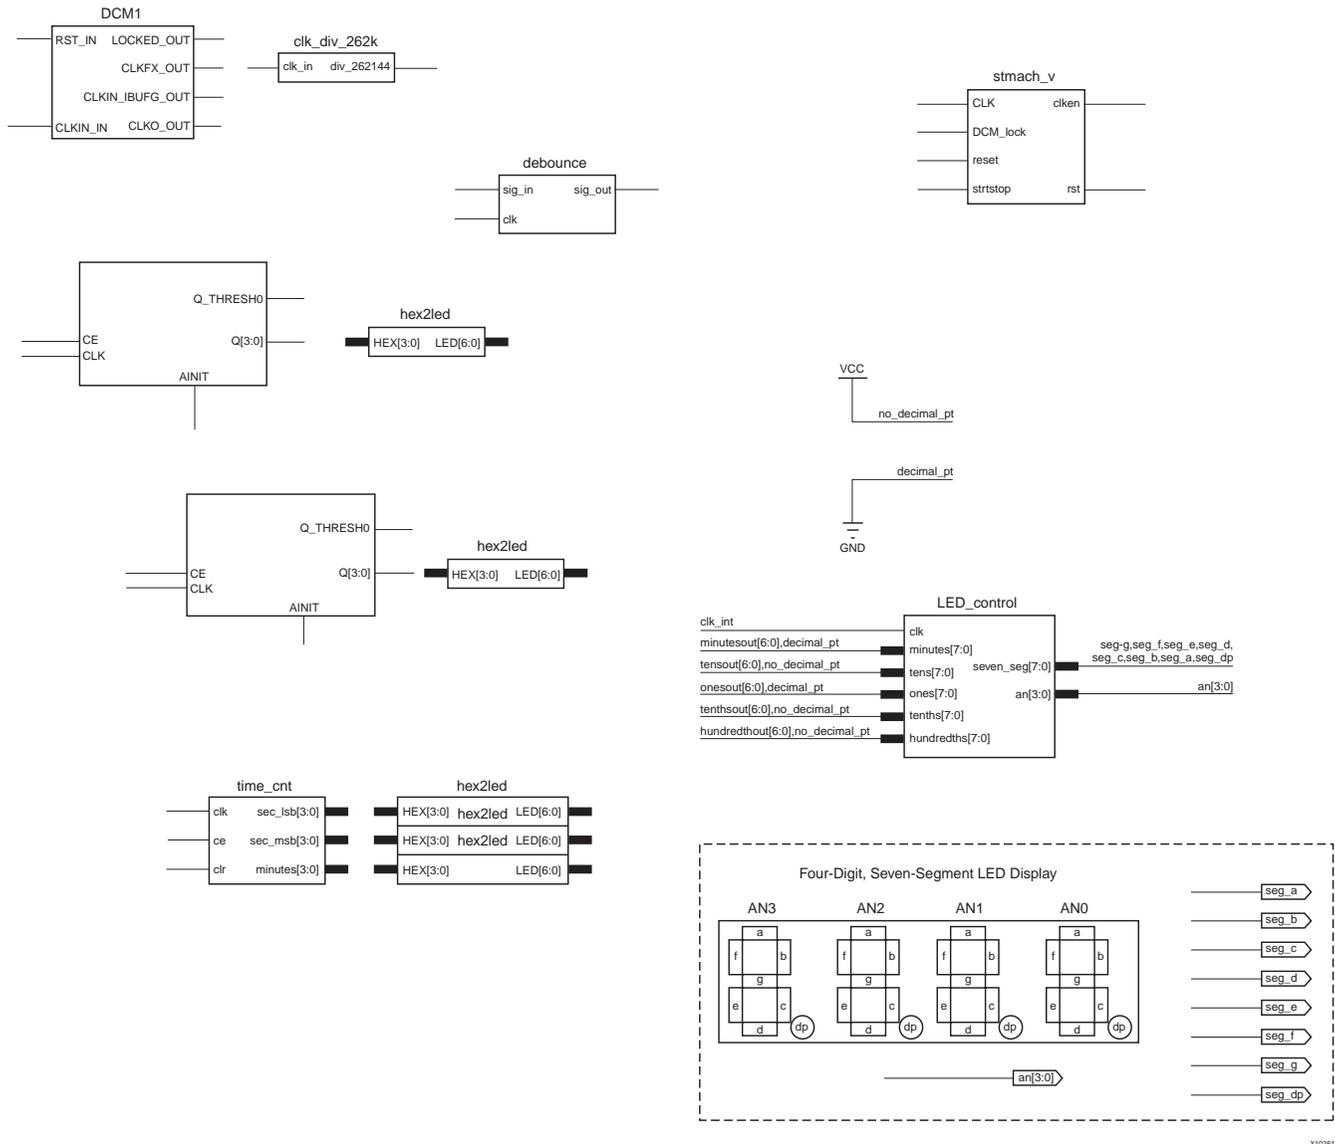

Figure 3-36: Placing Design Macros
5. Select the appropriate symbol, and add it to the Watch schematic in the approximate location as shown in Figure 3-36.